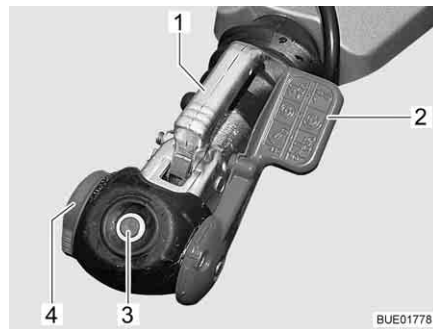

Fig. 4 AKS 1300 stabiliser
- Pull up the stabilising lever (Fig. 4,2) as far as possible.
- Turn the handwheel (Fig. 4,4) in an anticlockwise direction as far as possible in the open position.
- Pull the coupling handle (Fig. 4,1) upwards.
- Conduct a visual inspection: The green cylinder on the safety indicator (Fig. 4,3) must be visible.